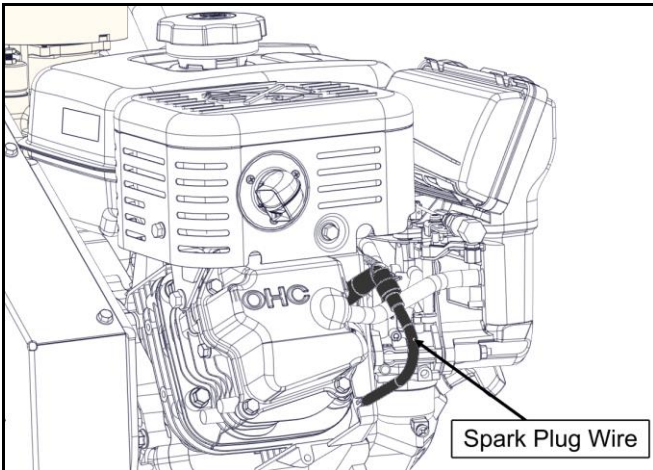

Figure 3 – Spark plug wire
- 2) Disconnect the spark plug wire (Figure 3).